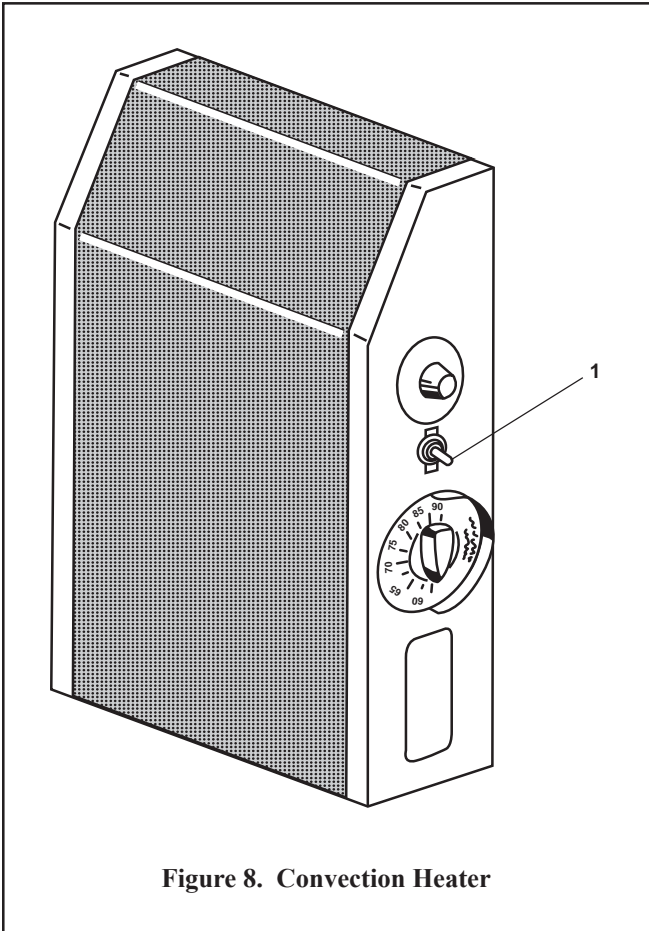

Figure 8. Convection Heater
3. Position all convection heater power ON switches (figure 8, item 1) to OFF.